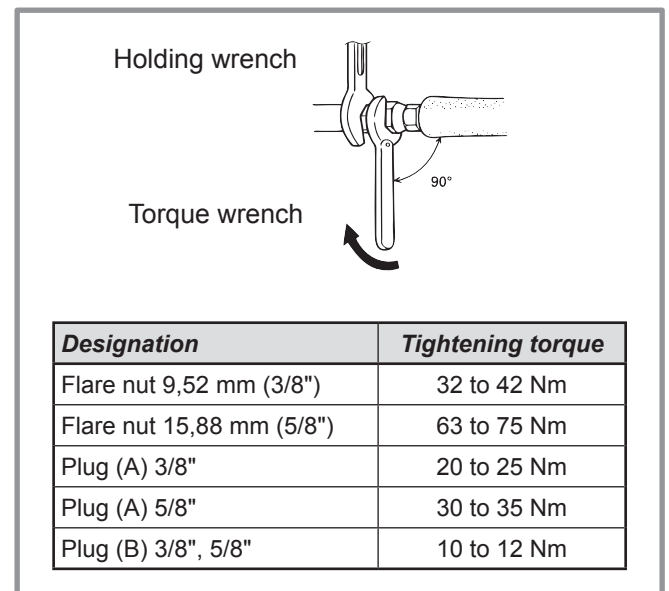

figure 19 - Tightening torque
- Refit the 2 plugs and tighten them to the recommended tightening torque (see figure 19, page 17).